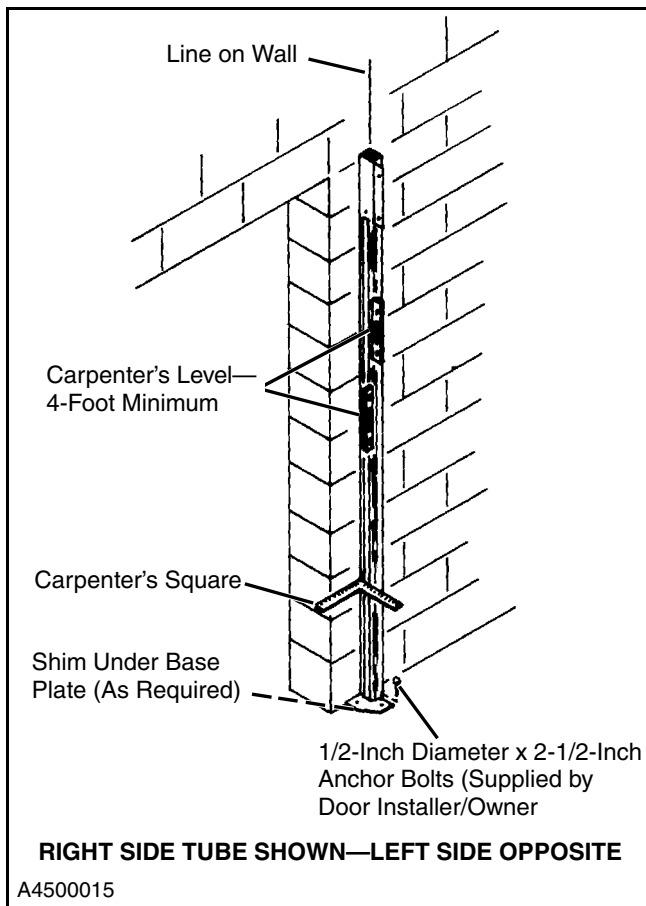

Figure 12
2. When the side tube has been positioned properly, anchor the side tube to the floor using appropriate anchors. (See Figure 12.) (See "ANCHORING METHODS" on page 4.) Anchor holes have been provided in the side tubes.